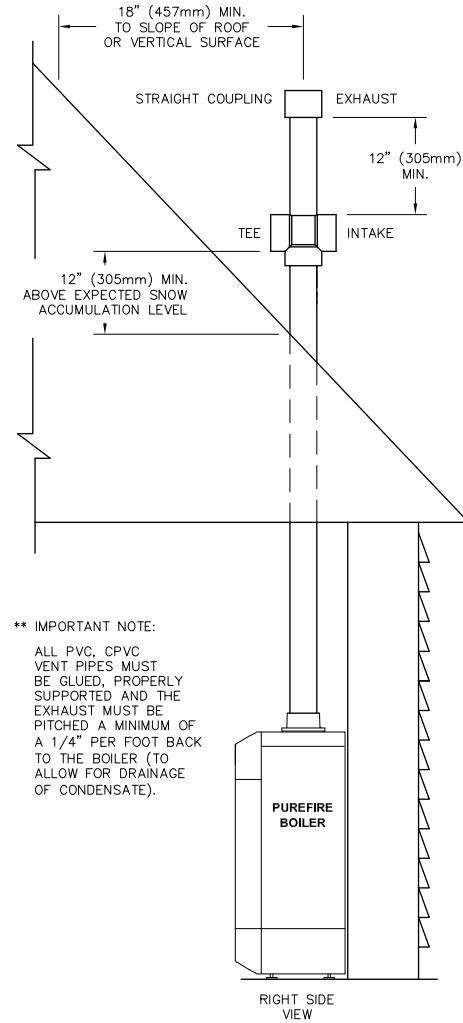

Figure 3.8: Standard Vertical Vent Installation
- Figure 3.8 shows the approved venting configuration for vertical venting using the standard fittings supplied.
- g. Refer to Figures 3.8 through 3.12 for vertical venting options using PVC or CPVC pipe.